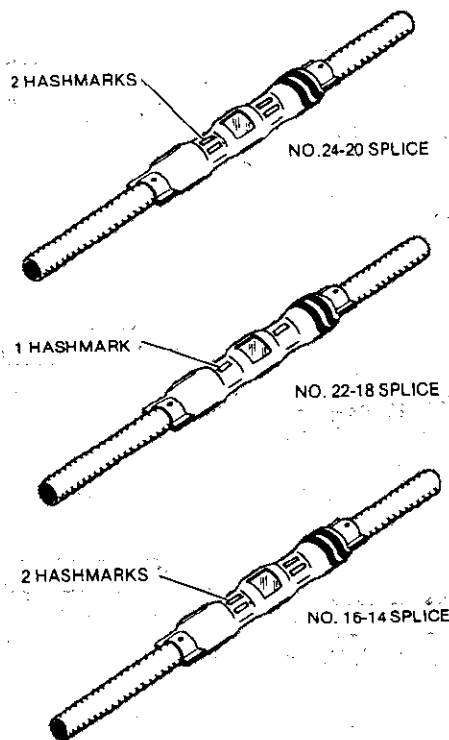

Figure 5
- (h) Observe hashmark code on finished crimp to insure that correct splice and tool combination was used. See Figure 5.